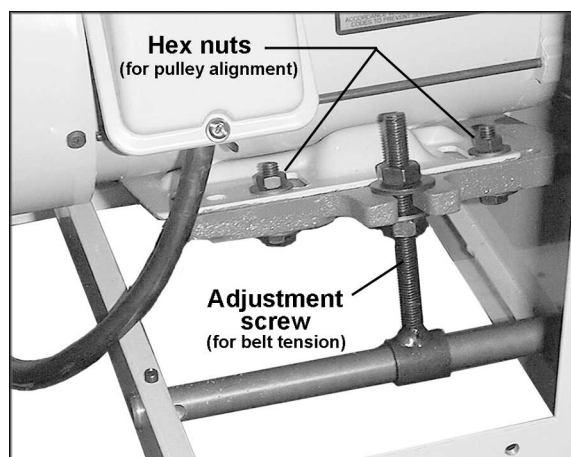

Figure 12
2. Loosen the bottom nut on the motor adjustment screw (Figure 12) with a 17mm wrench.
5. Tighten the bottom nut on the adjustment screw (Figure 12).
2. If the straight edge does not lie flat on both pulley faces, open the rear panel and loosen the four hex nuts on the motor plate (see Figure 12) with a 12mm wrench.